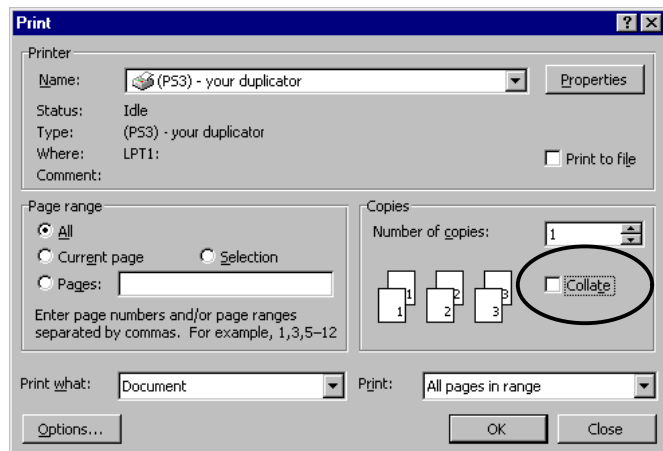

Figure 2-8.4. Turn the collate feature off (Microsoft Word 97)
**Turn the collate feature off.** (For the Microsoft Word 97 example in Figure 2-8.4 you would *uncheck* the box, as shown.)